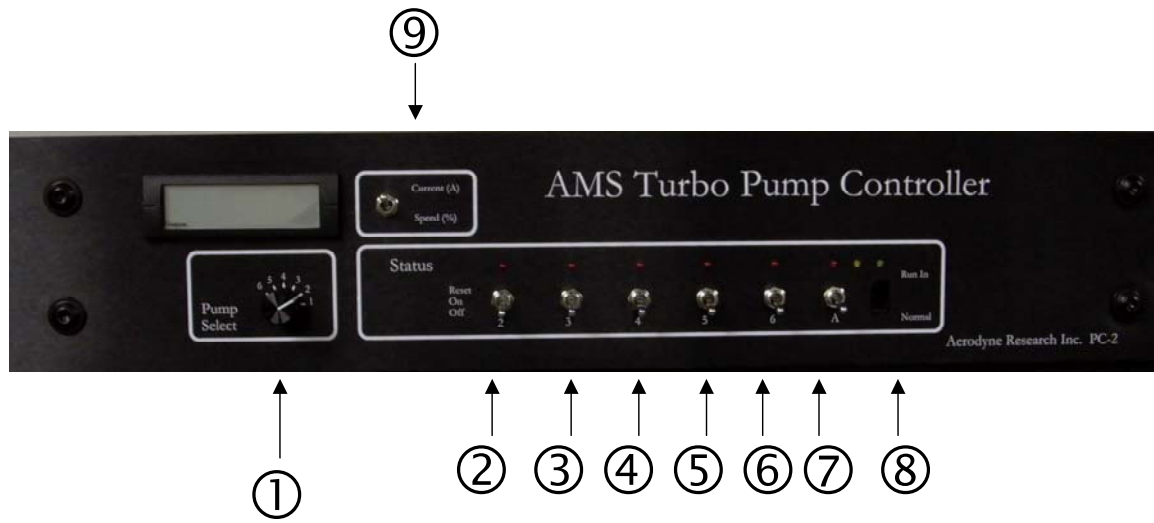

Figure 13: Turbo Pump Control, front panel controls
(See Figure 13)
3. After the pressure drops below 10 torr, turn on the turbo pump power at the AMS Power Supply Box (SW 2 in Figure 12). Turn on the Alcatel pump (Turbo Pump Control Panel TCP, Figure 13) and let it reach 100% speed. Next, turn on pump #2 (V301) and let it reach full speed. Note that this pump will reach >7 amps at full power load. Next, turn on all other pumps and verify that they reach full speed. Normally, Pump #5 (V301) will be the last to reach 100% speed.